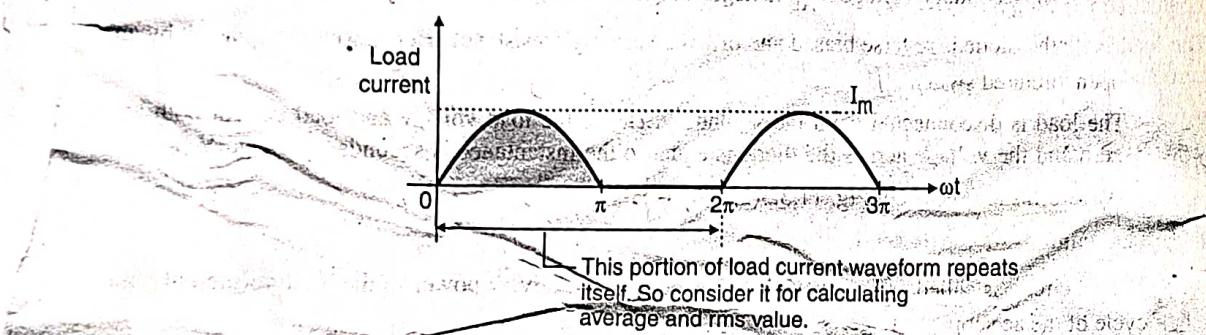

Fig. 11.3.3(c) : Load current waveform
- Refer to the load current waveform of Fig. 11.3.3(c). We have to consider one complete cycle of this waveform from $\omega t = 0$ to $\omega t = 2\pi$.